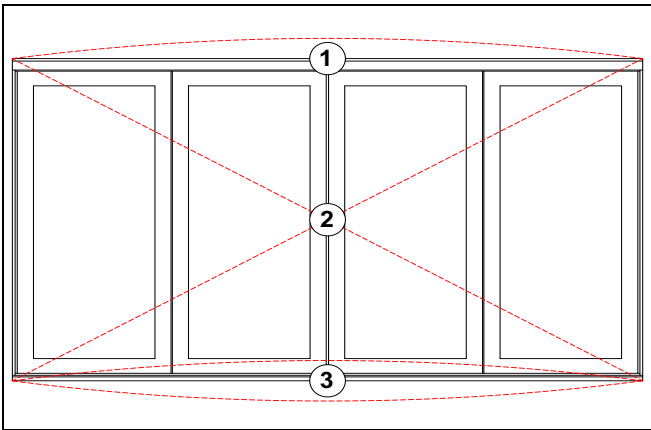

Figure 12
3. **Frame Tolerance:** the sill must be within +/- 1/16" (3) flat. The head jamb must be flat or within +1/8" (1) of flat (not bowed down). When installed, the frame must be within +/- 3/16" (2) of square. See Figure 12.